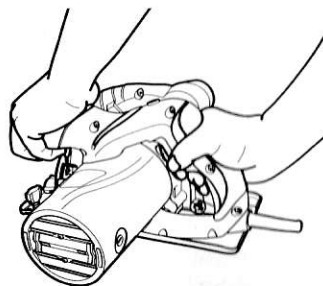

Fig. 10
- > Check that there is sufficient clearance for the saw blade (13) under the workpiece.
- > Hold the product with one hand on the front handle (17), and with the other hand on rear handle (20). Never try to operate the product with only one hand! Keep your hands away from under the workpiece (Fig. 10).
- > Carefully lead the product to the workpiece. Place the front of base plate (14) flat on the workpiece and push the product forward at an even speed.